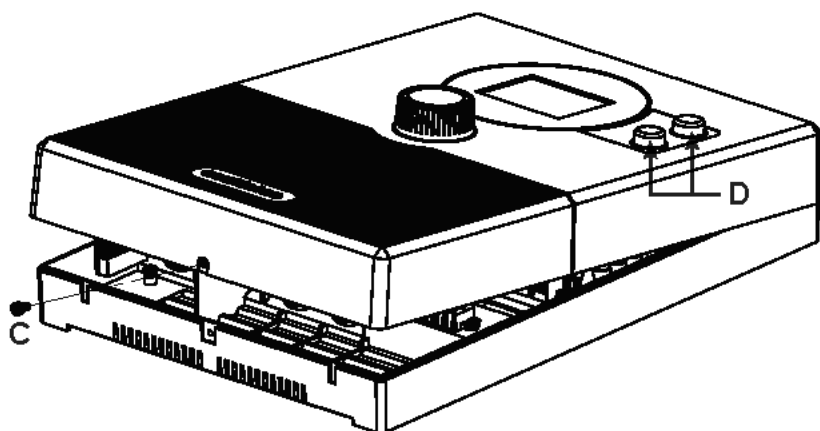

**Fig. 2 Remove housing cover**
2. Use a screwdriver to remove housing screw **C** and lift off the housing cover from the underside (see **Fig. 2**).